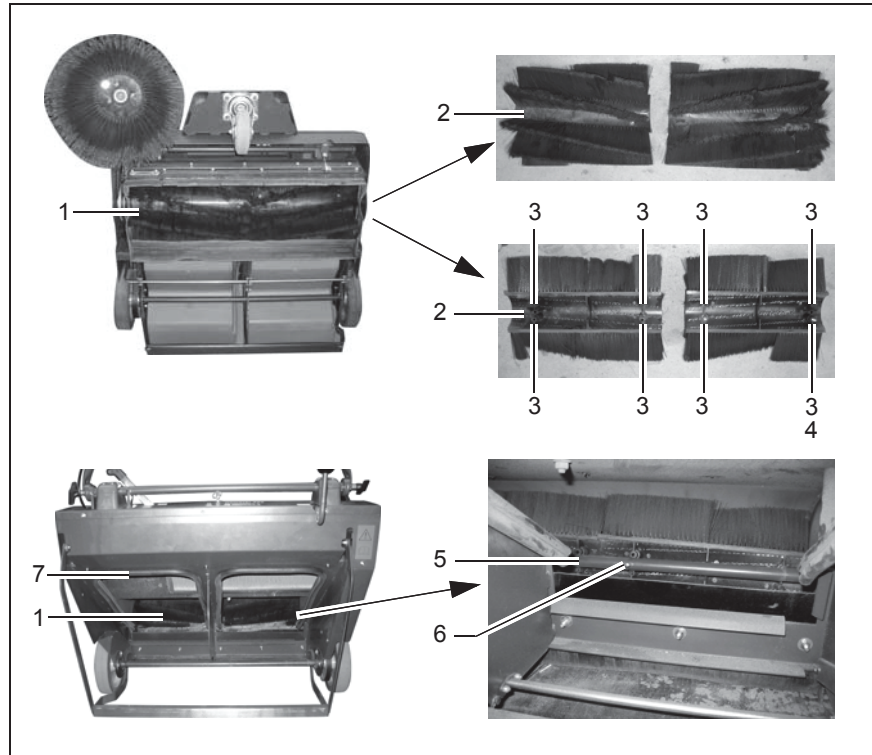

Fig. 20
The brush space with the rotary brush (Fig. 20/1) and seals for the dirt hoppers (Fig. 20/7) must be checked daily for signs of dirt and cleaned as necessary.
The rotary brush (Fig. 20/1) must be checked weekly and changed in the case of wear. A new rotary brush has a diameter of 25 cm. When a rotary brush has a diameter of only 20 cm, it must be replaced with a new one.
The rotary brush (Fig. 20/1) is comprised of four individual rotary brush segments (Fig. 20/2) which are fixed to the rotary brush shaft (Fig. 20/5) by the screws (Fig. 20/4). Pay attention that the bristle pattern on the rotary brush (Fig. 20/1) is always arranged in a V-shape in the direction of driving so that the dirt is guided to the center of the rotary brush.
2. First of all, disassemble the two adjacent rotary brush segments (Fig. 20/2): Loosen the screws (Fig. 20/4) and remove the rotary brush segments (Fig. 20/2).
3. Then turn the rotary brush shaft (Fig. 20/5) 180° by hand and disassemble the two remaining rotary brush segments (Fig. 20/2).
4. Assemble four new rotary brush segments (Fig. 20/2) in the reverse sequence. When doing so, pay attention that the rotary brush segments (Fig. 20/2) are installed on the guide pins (Fig. 20/6) of the rotary brush shaft (Fig. 20/5) and screw to facing rotary brush segments (Fig. 20/2) firmly to each other.
7. After changing the rotary brush (Fig. 20/1), readjust the sweeping pattern as necessary.
In the case of brush wear, and after changing the rotary brush (Fig. 20/1), the sweeping pattern must be readjusted.